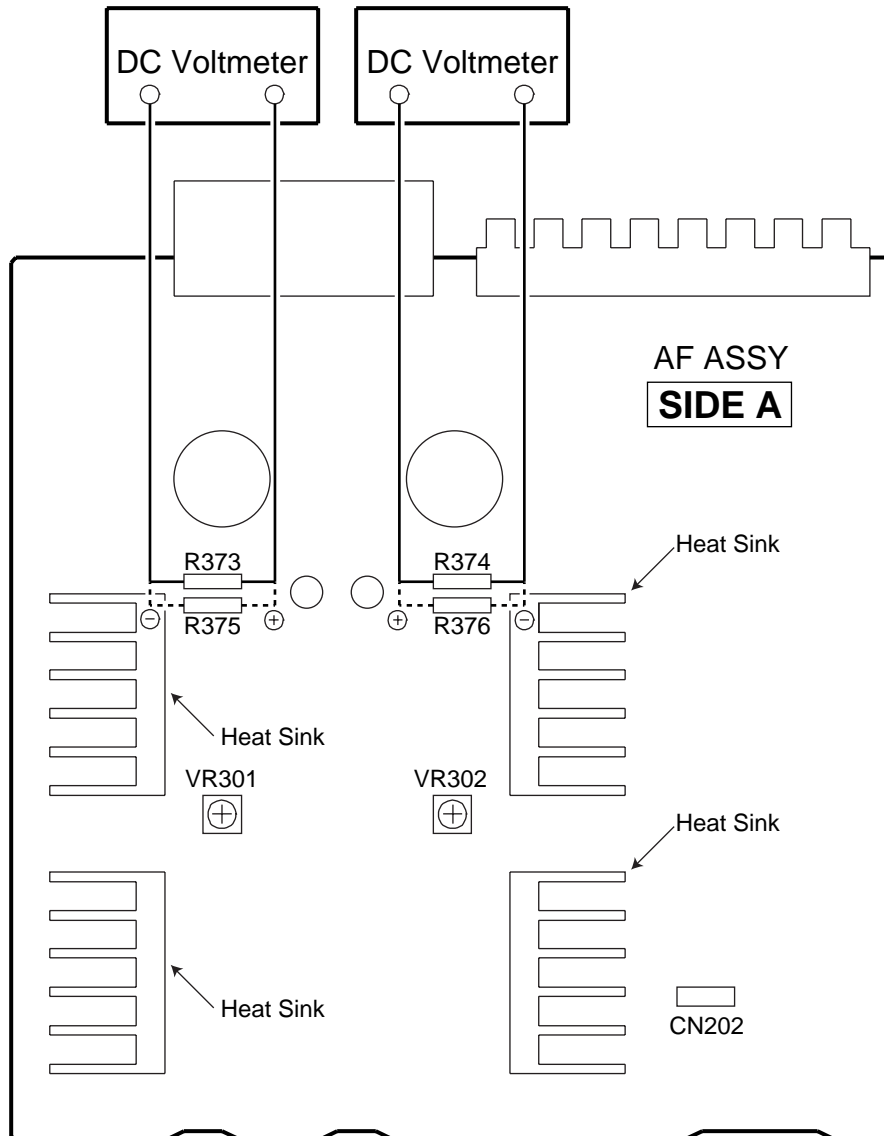

Fig.6-1 Adjustment Method
1. Connect the measuring instrument as Fig.6-1. (R373 or R374)